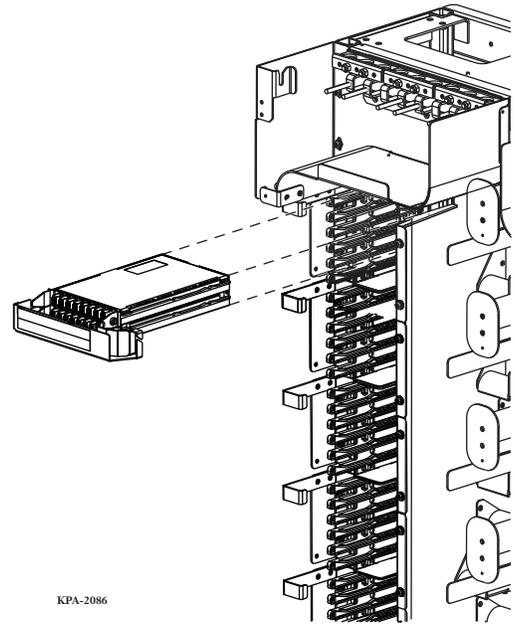

Figure 5
- Step 2:** Slide the module into the slots as shown in Figure 5.